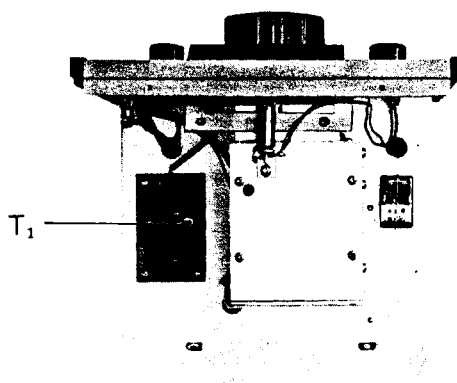

Fig. 14
1. Adjustment of crystal oscillation (Refer to Fig. 14)